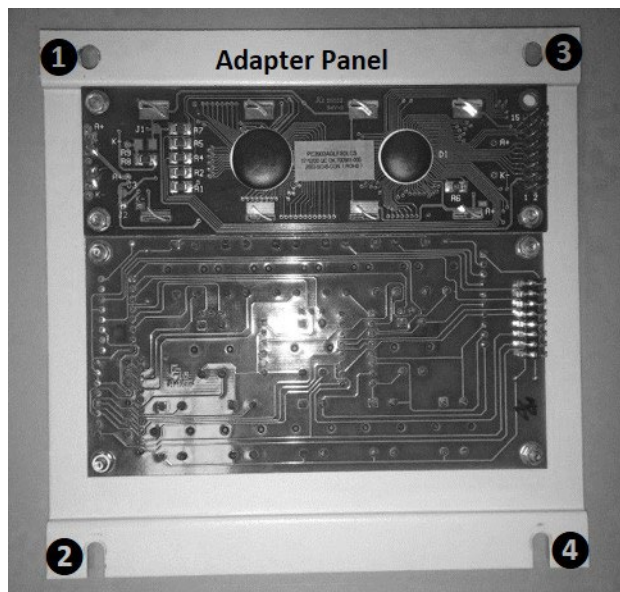

Fig. 9
3. Using a 1/4" nut driver, install the adapter panel (which houses the control board and display board) using the four (4) nuts provided to hold to cover plate. (Fig. 9)